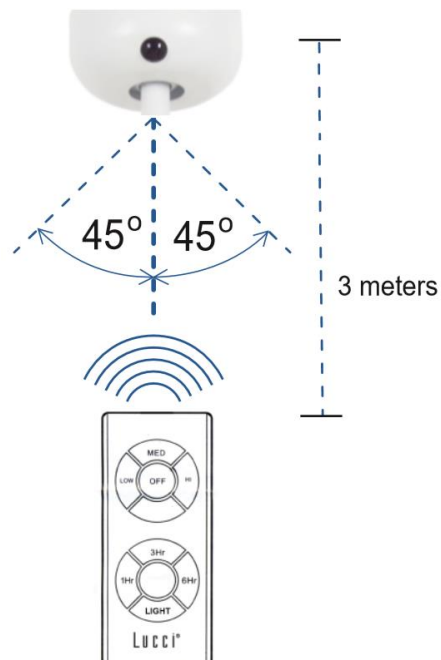

Fig. 12
**Effective distance/location for IR remote control (Fig. 12)**